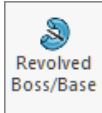

Fig. 5
Step 5. Click **Smart Dimension** (S) on the Sketch toolbar.
Step 6. Add dimensions, **Fig. 5**.